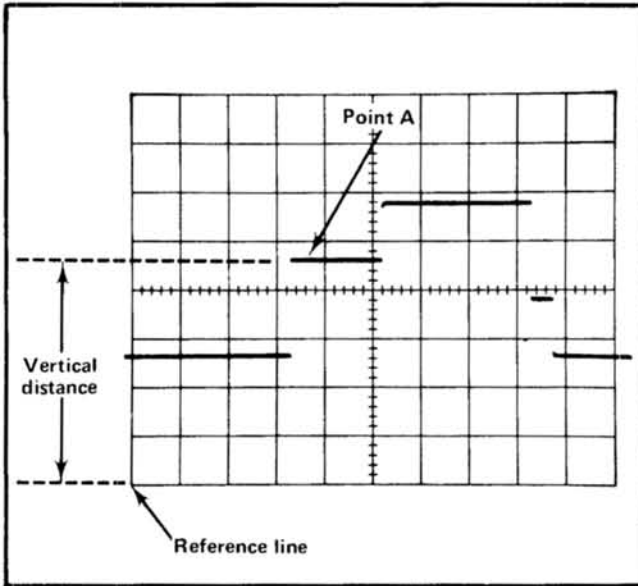

Fig. 2-2 Measuring instantaneous voltage with respect to some reference.
6. Measure the distance in divisions between the reference line and the point on the waveform at which the DC level is to be measured. For example, in Fig. 2-2 the measurement is between the reference line and point A.
EXAMPLE: Assume the vertical distance measured is 4.6 divisions (see Fig. 2-2) and the waveform is above the reference line using a 10X probe with a VOLTS/DIV switch setting of 0.5 V.